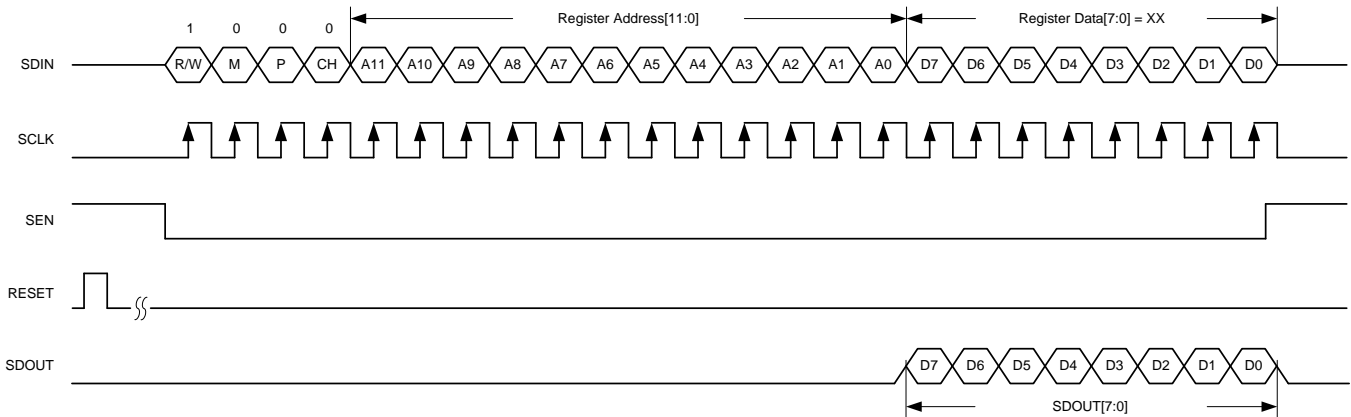

Figure 68. Serial Register Read Timing Diagram
4. Reading back the register content on the SDOUT pin, as shown in Figure 68. When a page is selected, multiple read backs from the same page can be done.